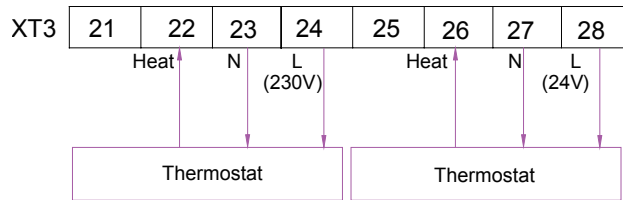
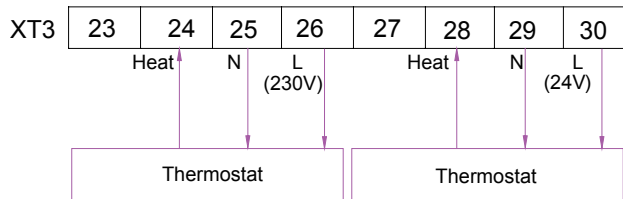

Fig .2
Fig .4
- (4). If it is Heating only thermostat, please connect wire as Fig 2 or Fig 4;